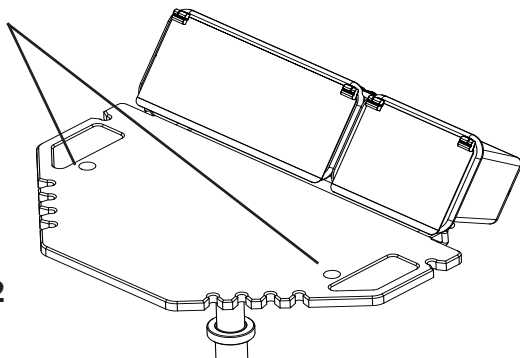

Fig 6.2
1. The Top Tier of the your workstation must be assembled on-site by inserting the poles from the top tier into the mounting holes as shown (Fig 6.2).